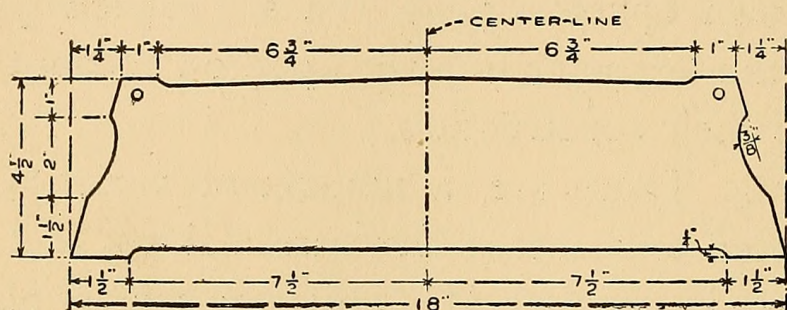

FIG. 117. — Detail of Back of Necktie Rack shown in Fig. 110.
**The Necktie Rack** shown in Fig. 110 has a back cut out of  $\frac{1}{2}$ -inch stuff (see working-drawing for back in Fig. 117) with seven brass screw-hooks screwed into it in two rows. Scribe two pencil lines across the center of the board about 1 inch apart, then starting at the center of the length of the board, mark the location of the center hook, and each side of this locate the other hooks 2 inches apart, alternating them on the two lines as shown. Fasten two screw-eyes in the top of the board, one at each end, by means of which to hang the rack upon the wall.